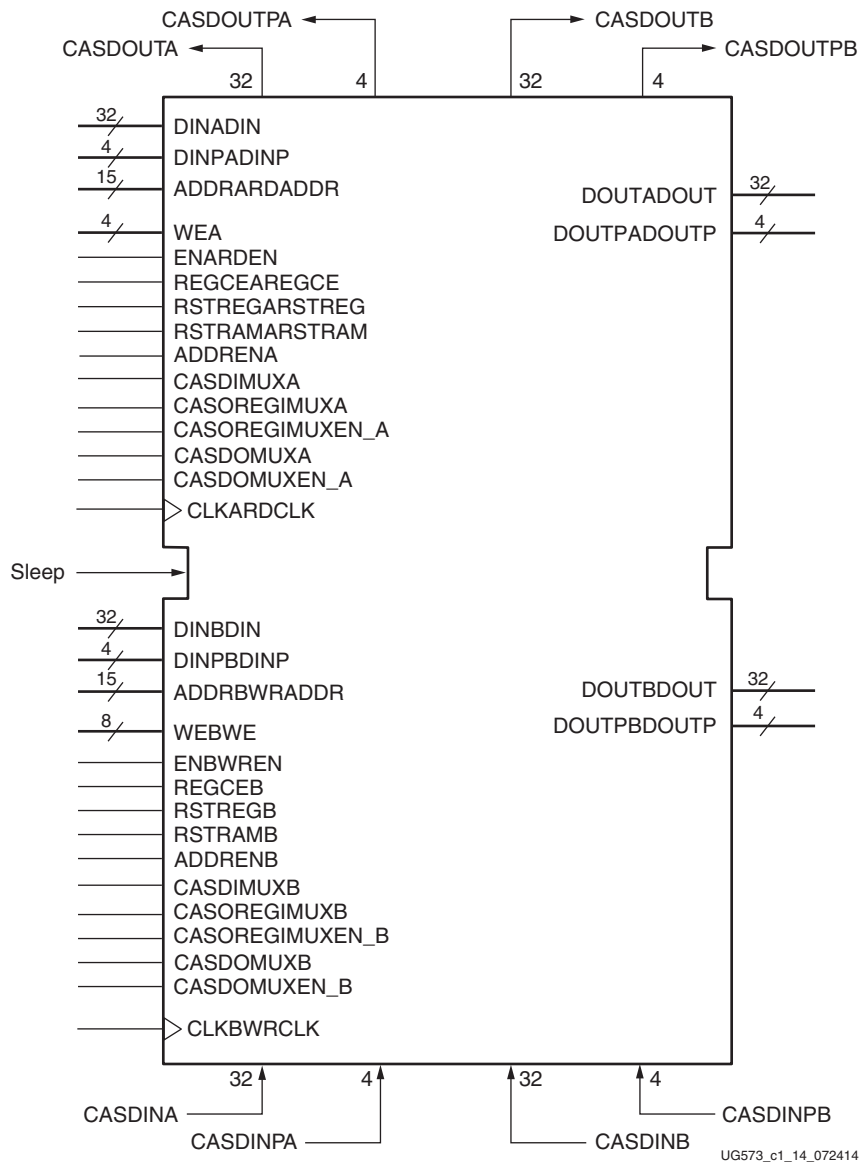

Figure 1-14: Block RAM Port Signals (RAMB36E2)
Figure 1-14 illustrates all the I/O ports of the 36 Kb true dual-port block RAM primitive (RAMB36). Table 1-5 lists these primitives.
**Note:** ECC pins are not shown in Figure 1-14. For more information, see Chapter 3, Built-in Error Correction.